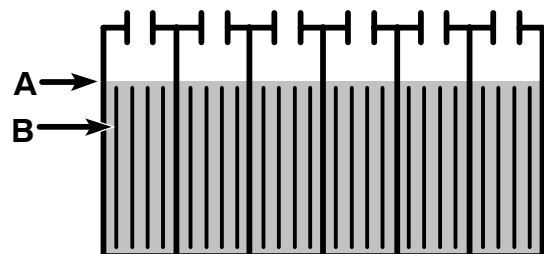

FIG. 22
3. Before charging the batteries, periodically check the electrolyte level in each battery cell (Figure 22).
The electrolyte level (A) should slightly cover the battery plates (B). Add distilled water as needed. **DO NOT OVERFILL**, the fluid may expand and overflow while charging. Replace cell caps before charging (Figure 22).